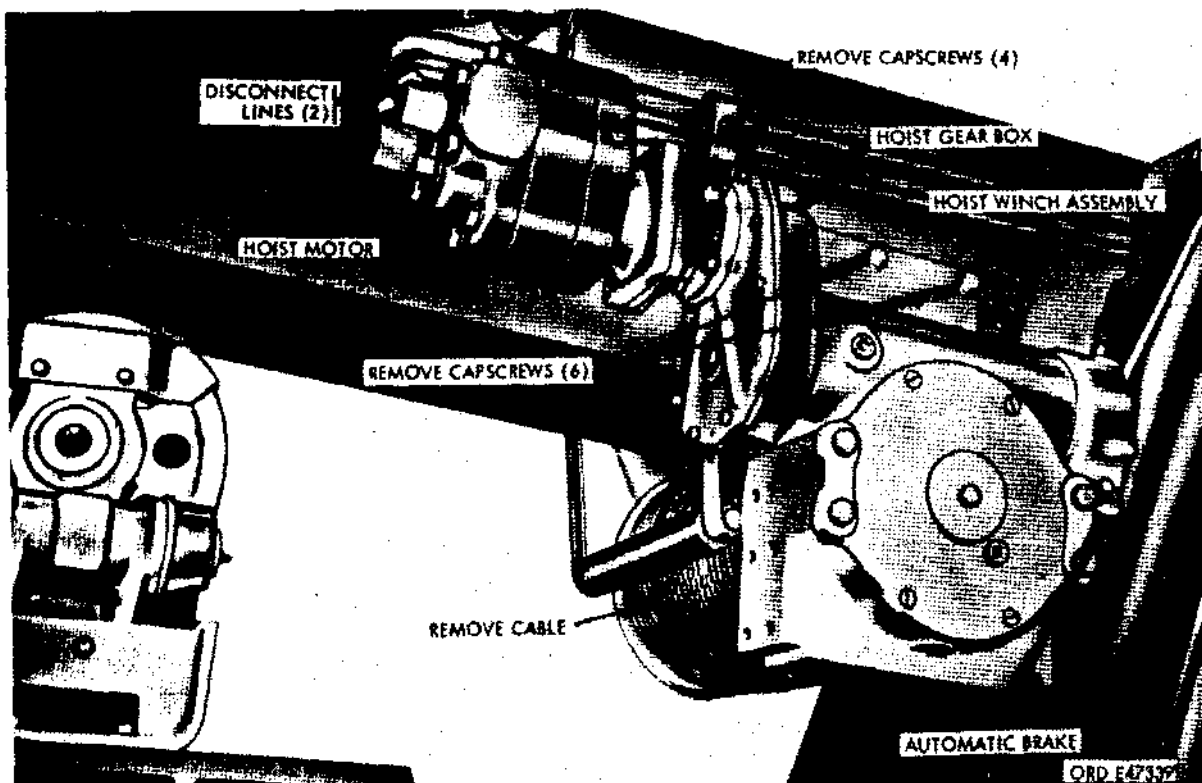

Figure 550. Removing and installing hoist hydraulic motor and hoist winch assembly
403. Hoist Hydraulic Motor (Fig. 550)
- (1) Disconnect two hydraulic lines to the motor as shown in figure 550.
- (2) Remove four cap screws attaching motor to hoist gearbox as shown in figure 550 and remove motor assembly.
(Fig. 550)